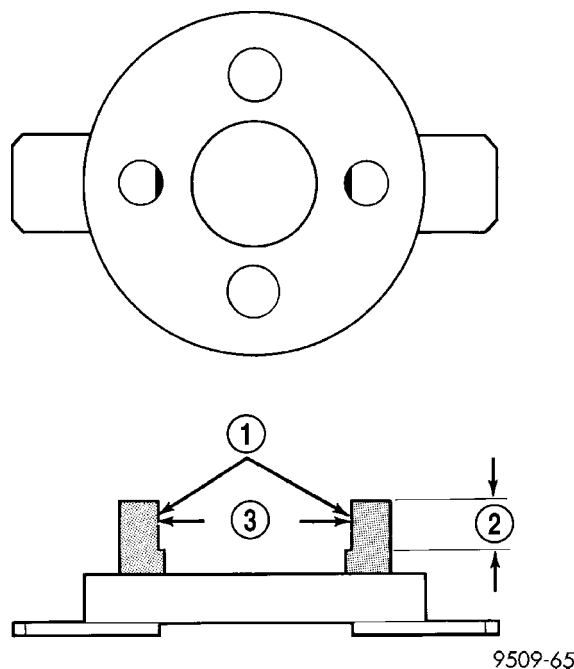

Fig. 32 Modification to Special Tool
(4) Hold camshaft sprocket with Special Tools C-4687 and modified C-4687-1 as shown in (Fig. 32), while removing attaching bolt.
(5) Remove sprocket from camshaft.
(4) Install camshaft sprocket retaining bolt. Hold camshaft sprocket with Special Tools C-4687 and modified C-4687-1 (Fig. 32) and tighten bolt to 115 N·m (85 ft. lbs.).
(5) Install timing belt and tensioner/bracket assembly (Refer to 9 - ENGINE/VALVE TIMING/TIMING BELT AND SPROCKETS - INSTALLATION).
(6) Install front timing belt cover (Refer to 9 - ENGINE/VALVE TIMING/TIMING BELT COVER(S) - INSTALLATION).
(7) Connect negative battery cable.